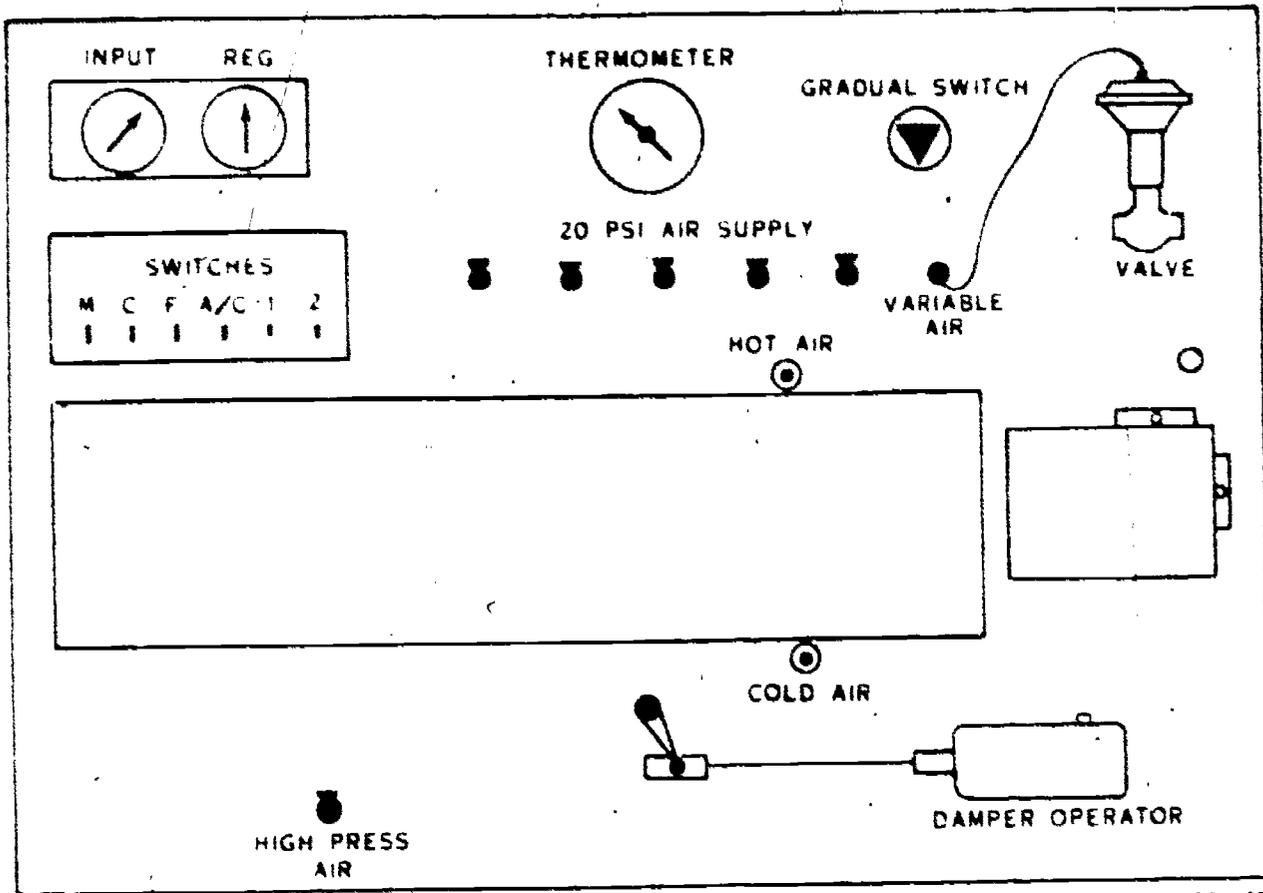

Figure 3.
3. Connect the valve to the variable supply pressure. See figure 3.